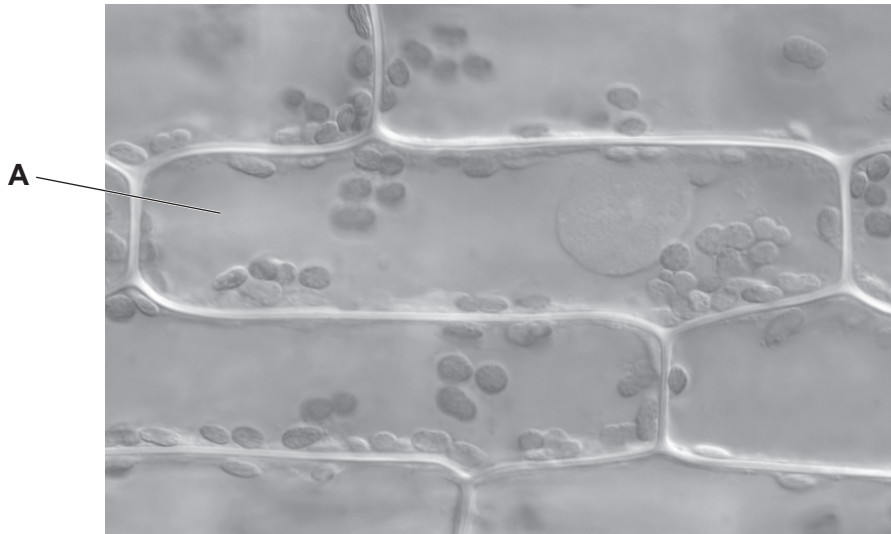

Fig. 2.1
- 2 (a) Fig. 2.1 is a photomicrograph showing several cells from an *Elodea* sp. aquatic plant.
- (i) Draw a large diagram of the cell labelled **A** in Fig. 2.1.